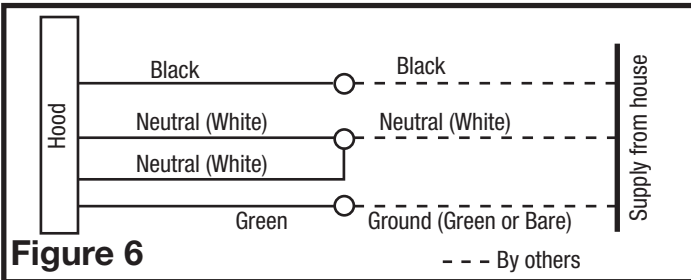

Figure 6
1. Connect the two loose White wires from the range hood to the White wire from the supply, and the loose Black wire from the range hood to the Black wire of the supply. Connect the ground wire (green or bare) from the supply to the green ground screw of the hood. Use approved methods for all connections (Figure 6).